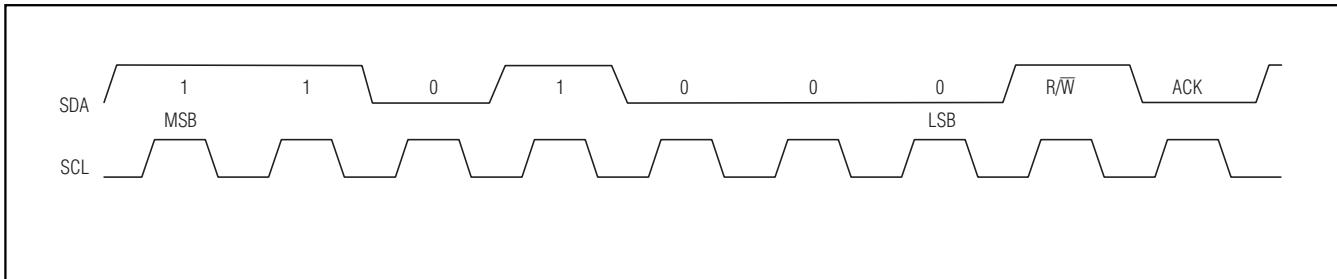

Figure 7. MAX6917 Slave Address
Before any data is transmitted on the I²C-bus-compatible serial interface, the device that is expected to respond must be addressed first. The first byte sent after the START (S) condition is the address byte or 7-bit slave ID. The MAX6917 acts as a slave transmitter/receiver. Therefore, SCL is only an input clock signal and SDA is a bidirectional data line. The slave address for the MAX6917 is shown in Figure 7.